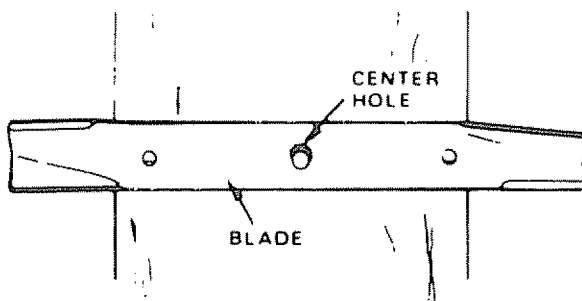

FIGURE 21
- To check blade balance, drive a nail into a beam or wall. Leave about one inch (25.4 mm) of the straight nail exposed. Place center hole of clean blade over the head of the nail (Fig. 21). NOTE: CENTER HOLE OF BLADE ON NAIL. IF BLADE IS PROPERLY BALANCED, BLADE SHOULD REMAIN IN POSITION SHOWN IN FIG. 21. IF EITHER END OF THE BLADE MOVES DOWNWARD, BLADE IS NOT BALANCED. SHARPEN THE HEAVY END UNTIL BLADE IS BALANCED.